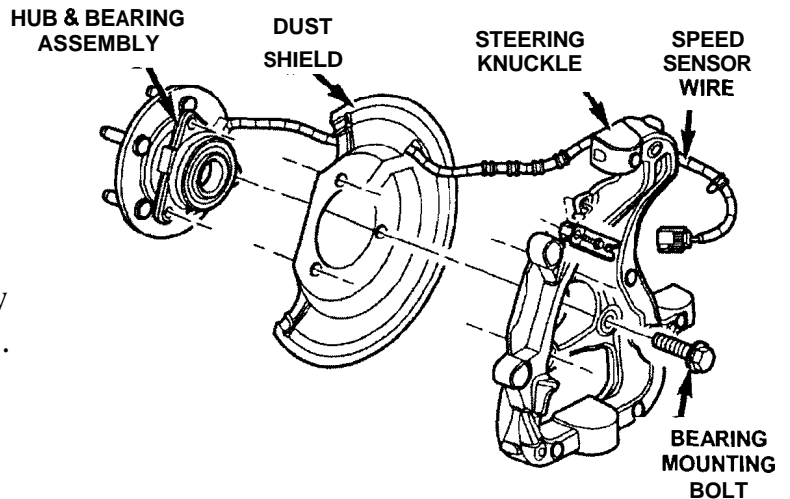

Figure 3
1. For speed sensor equipped vehicles, disconnect the wheel speed sensor(s) wire at the fender splash shield and upper control arm (Figure 3).
4. Slide the hub/bearing out of the steering knuckle and discard (Figure 3).
6. With the brake dust shield in position, install the new hub/bearing into the steering knuckle and tighten the bolts to 120 ft. lbs. (163 N·m) (Figure 3).